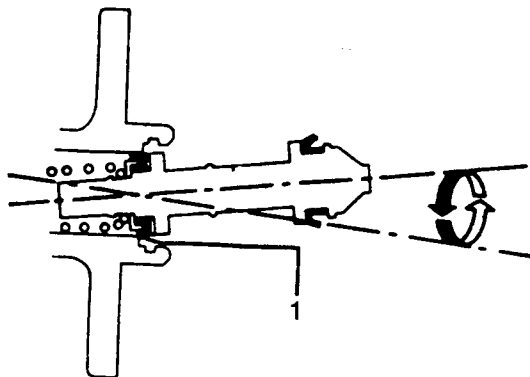

Fig K1.28
- (5) Refer to Fig K1.28. Clamp the cylinder in a bench vice, lubricate the secondary plunger seals (1) and the cylinder bore.
- (6) Offer the plunger assembly to the cylinder until the recuperation seal is resting centrally in the mouth of the bore. Then, ensuring that the seal does not become trapped, gently introduce the plunger with a circular rocking motion as illustrated to ease in the seal, then slowly push the plunger down the bore in one continuous movement.